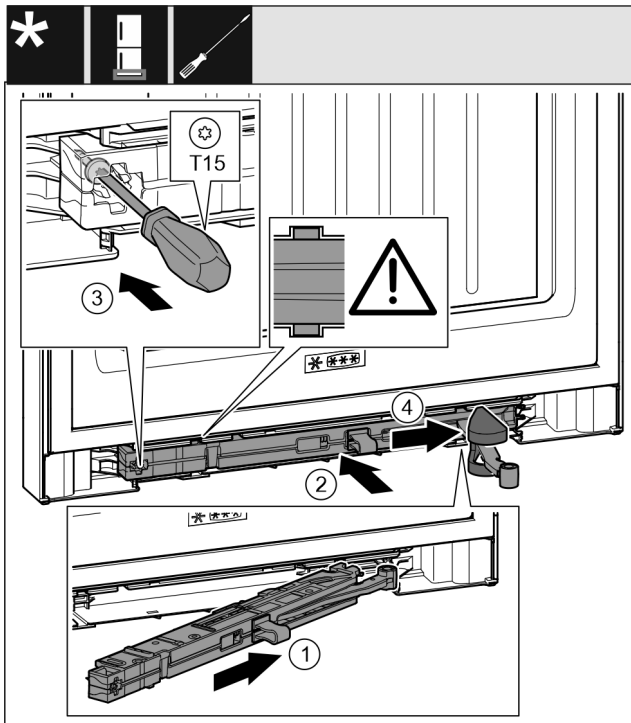

Fig. 44
- ▶ Slide the soft stop mechanism on the bearing bracket side at an angle into the recess as far as it will go. Fig. 44 (1)
- ▶ Slide the soft stop mechanism fully into the recess. Fig. 44 (2)
- ▶ Tighten the screw using a T15 screwdriver. Fig. 44 (3)
- ▶ Push the cover over the hinge. Fig. 44 (4)